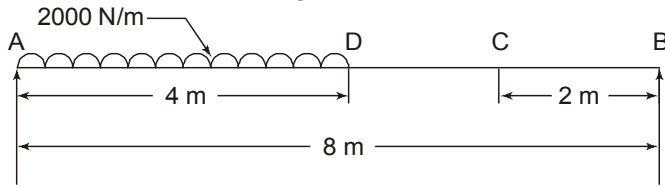

Fig. 1
7. (a) Draw S.F. and B.M. diagram for the beam shown in Fig. 1. (10)